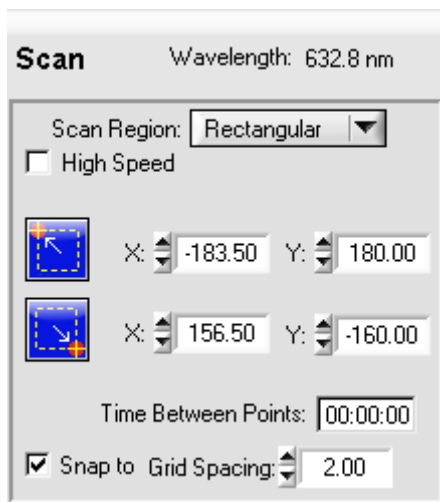

Figure 4.9 Automatic Scan Panel for Rectangular Scans
1. Select **Rectangular** from the drop-down menu under Scan Region. The scan control now looks like Figure 4.9 shown below.